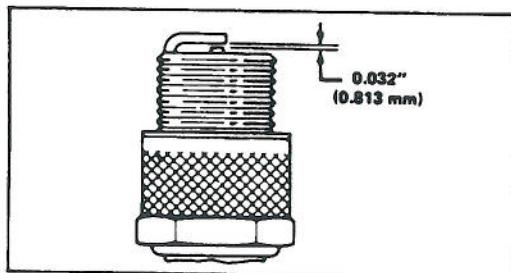

Figure 14
3. Set air gap at 0.032" (0.813 mm) (Fig. 14). Install correctly gapped spark plug and gasket seal. Tighten plug firmly to 15 ft-lb (20.4 N·m).